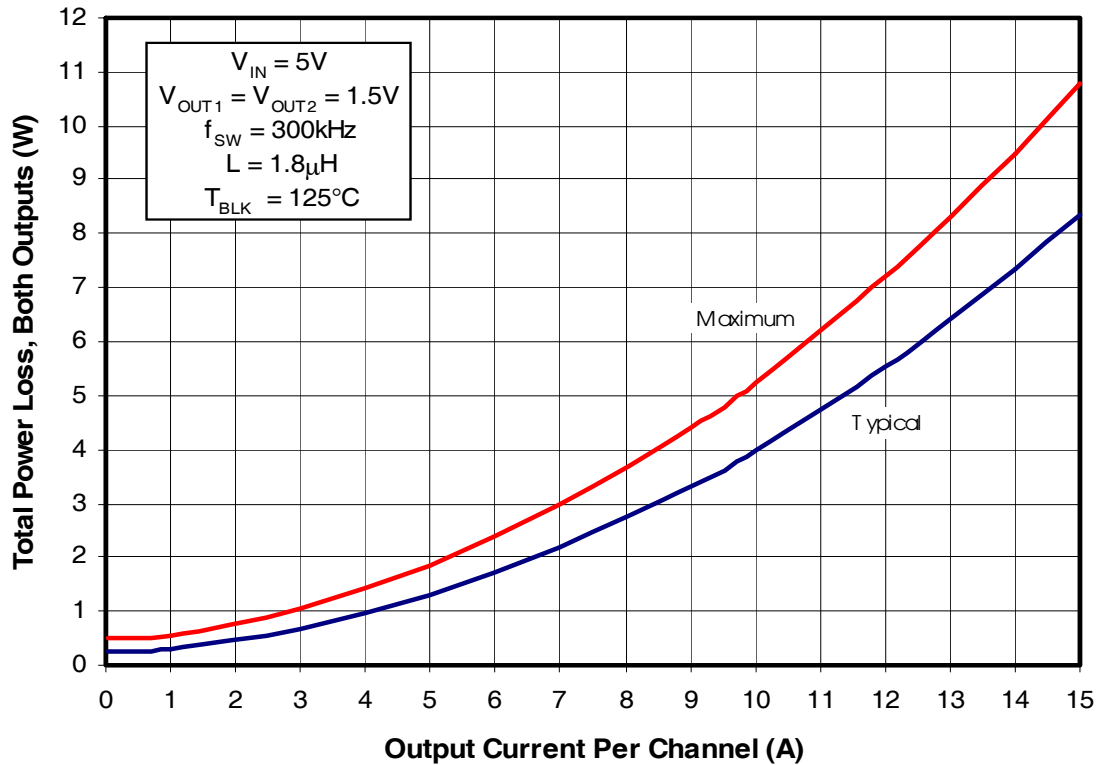

Fig. 2: Power Loss vs. Current
To make adjustments to the power loss curves in Fig. 2, multiply the normalized value obtained from the curves in Figs. 4, 5, 6 or 7 by the value indicated on the power loss curve in Fig. 2. Remember that the power loss in Fig. 2. is the power loss for 2 outputs operating with the same output voltage. If differing output voltages are used the initial power loss for each channel needs to be divided by 2. Then if multiple adjustments are required, multiply all of the normalized values together, then multiply that product by the value indicated on the power loss curve in Fig. 2. The resulting product is the final power loss based on all factors. See example no. 1.
- Output1 (Fig. 2) Maximum power loss = 5.3W / 2 = 2.65W
- Output2 (Fig. 2) Maximum power loss = $8.25W / 2 = 4.13W$